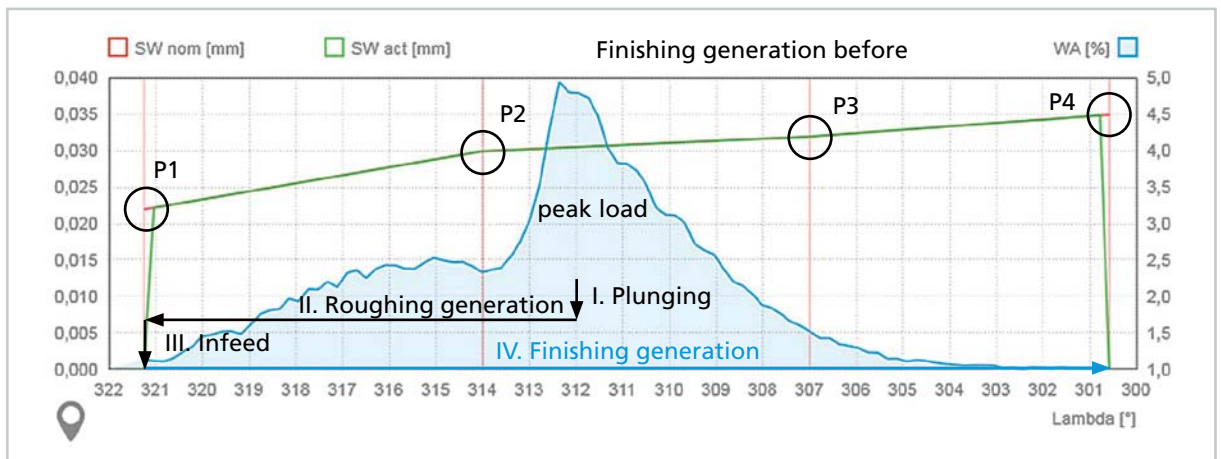

Fig. 4: Tool utilization curve **before optimization** (blue) finishing-generation process
After the initial plunging process and subsequent roughing-generating, finishing-generating is the final step in bevel gear cutting. Figure 4 shows the plotted utilization curve (in blue) of the tool spin-
The process to be optimized (see Figure 4) starts with a plunging operation (I) at a working position of approximately 312°.